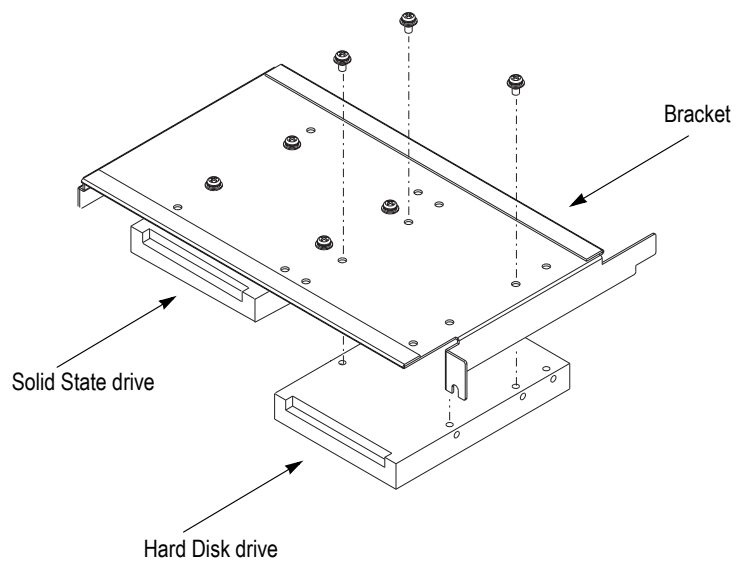

Figure 3: Hard disk removal
4. Remove the three screws securing the hard disk to the bracket. See Figure 3.